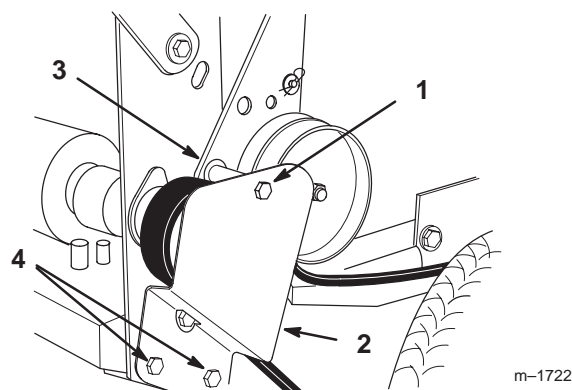

Figure 40
2. Remove the top bolt securing idler support and idler bracket to the rear frame (Fig. 40).
3. Loosen the bottom 2 bolts enough to allow the belt to pass between the drive pulley and the idler support (Fig. 40).